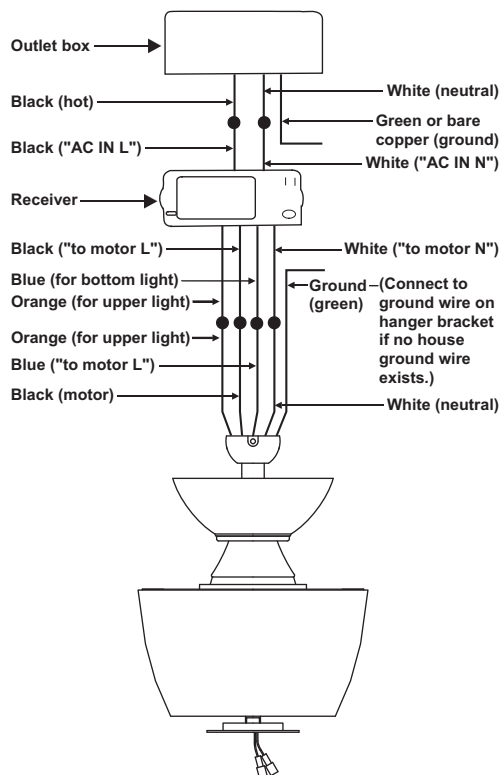

Figure 11
Step 2. (Figure 11) Motor to Receiver Electrical Connections: Connect the Black wire from the fan to Black wire marked "TO MOTOR L". Connect the White wire from the fan to the White wire marked "TO MOTOR N" from the receiver. Connect the Blue wire from the fan to the Blue wire marked "For bottom Light" from the receiver. Connect the Orange wire from fan to the Orange wire from receiver marked "For Upper Light". Secure wire connections with the plastic wire nuts provided.
Step 3. (Fig. 11) Receiver to House Supply Wires Electrical Connections: Connect the black (hot) wire from the ceiling to the black wire marked "AC in L" from the receiver. Connect the white(neutral) wire from the ceiling to the white wire marked "AC in N" from the Receiver. Secure the wire connections with the plastic wire nuts provided.
Step 4. (Figure 11) If your outlet box has a ground wire (green or bare copper) connect it to the fan ground wires; otherwise connect the hanging bracket ground wire to the mounting bracket. Secure the wire connection with a plastic nut provided. After connecting the wires, spread them apart so that the green and white wires are on one side of the outlet box and black and blue wires are on the other side. Carefully tuck the wire connections up into the outlet box.